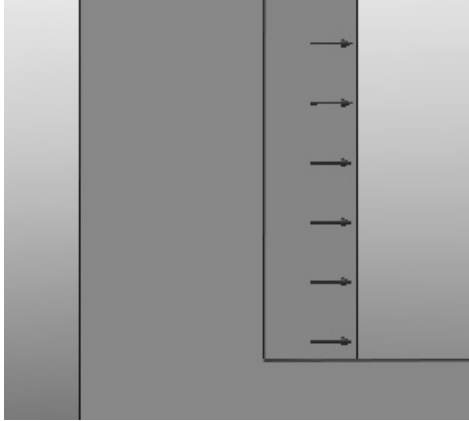
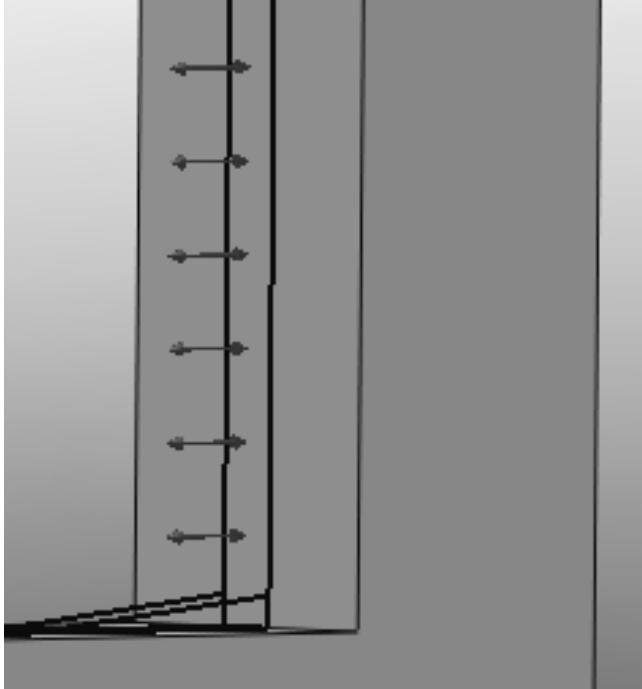

Figure 2.17d) Inlet velocity boundary condition indicated by arrows
Figure 2.18b) Outlet static pressure boundary condition
18. Red arrows pointing in the right direction appears indicating the inlet velocity boundary condition, see figure 2.17d). Right click in the graphics window and select **Zoom to Fit**. Right click again in the graphics window and select  **Rotate View** once again to rotate the part so that the inner right surface is visible in the graphics window. Right click and click on  **Select**. Right click on  **Boundary Conditions** in the **Flow Simulation analysis tree** and select **Insert Boundary Condition...** Click on the end surface on the outlet boundary. Click on the **Pressure Openings** button in the **Type** portion of the **Boundary Condition** window and select **Static Pressure**. If you zoom in on the outlet boundary you will see blue arrows indicating the static pressure boundary condition, see figure 2.18b). Click OK  to exit the window.